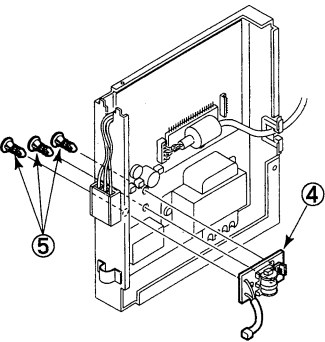

Fig.2
2. Insert card spacer ⑤ to the rear side of the electric parts box, and mount mini P.C. board ④ on it. (Fig.2)